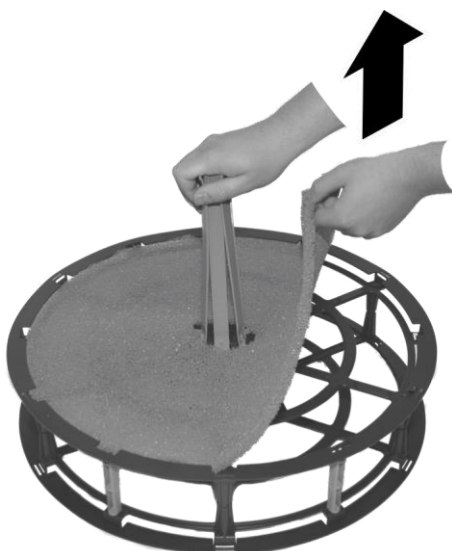

Fig. 24: Removing the inner evaporator filter
5. ➤ Remove the inner evaporator filter (Fig. 24).